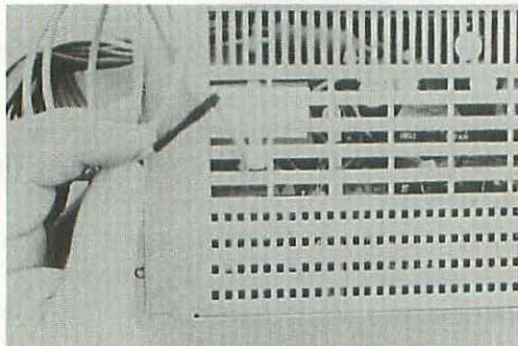

Figure 4-19 The remaining wire is a remote temperature sensor.
13. The remaining wire is a remote temperature sensor. Snake the remote temperature sensor through the grid opening, as shown in Figure 4-19. Reattach the power supply lid.